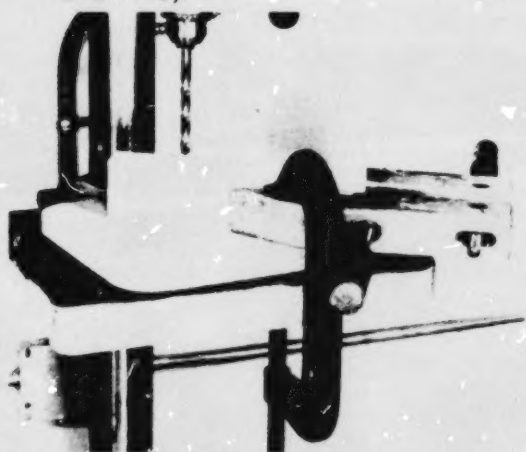

Figure 17-4 Clamping with a hand screw
3. Secure the wood with a clamp to prevent it from moving while you are drilling or boring. There are several ways of clamping (Figures 17-4, 17-5, and 17-6).